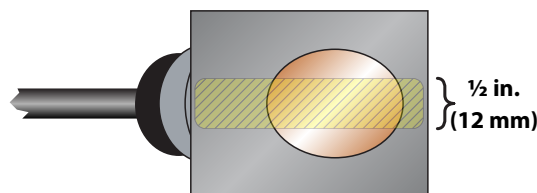

Figure 20: Application of couplant
For DTTR, DTTN, DTTL and DTTH transducers, place a single bead of couplant, approximately 1/2 inch (12 mm) thick, on the flat face of the transducer. See *Figure 20*. Generally, a silicone-based grease is used as an acoustic couplant, but any good quality grease-like substance that is rated to not flow at the operating temperature of the pipe is acceptable. For pipe surface temperature over 130° F (55° C), use Sonotemp® (P.N. D002-2011-010).
5. For DTTR, DTTN, D TTL and D TTH transducers, place a single bead of couplant, approximately 1/2 inch (12 mm) thick, on the flat face of the transducer. See Figure 20. Generally, a silicone-based grease is used as an acoustic couplant, but any good quality grease-like substance that is rated to not flow at the operating temperature of the pipe is acceptable.
See *Figure 20 on page 23*.